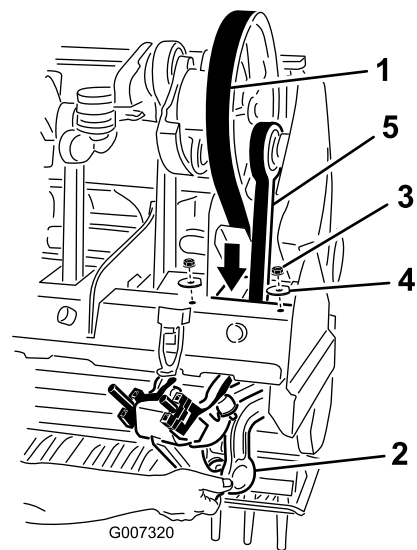

Figure 35
5. Loosen and remove the two (2) lock nuts and washers securing the rotalink damper for the #1 stomper arm (Figure 35).
7. Route the drive belt down through the coring head frame and around the lower end of the #1 stomper arm Figure 35